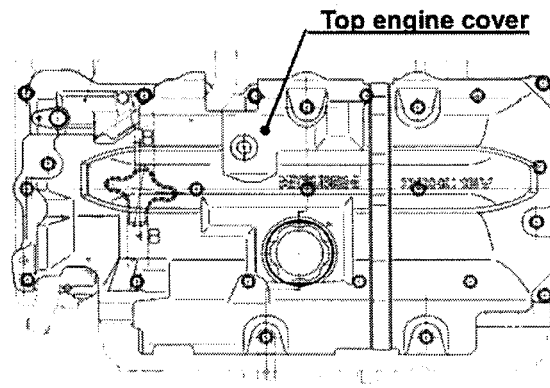

Figure 1 Top of engine
(1) Remove the top engine cover. (Fig. 1)